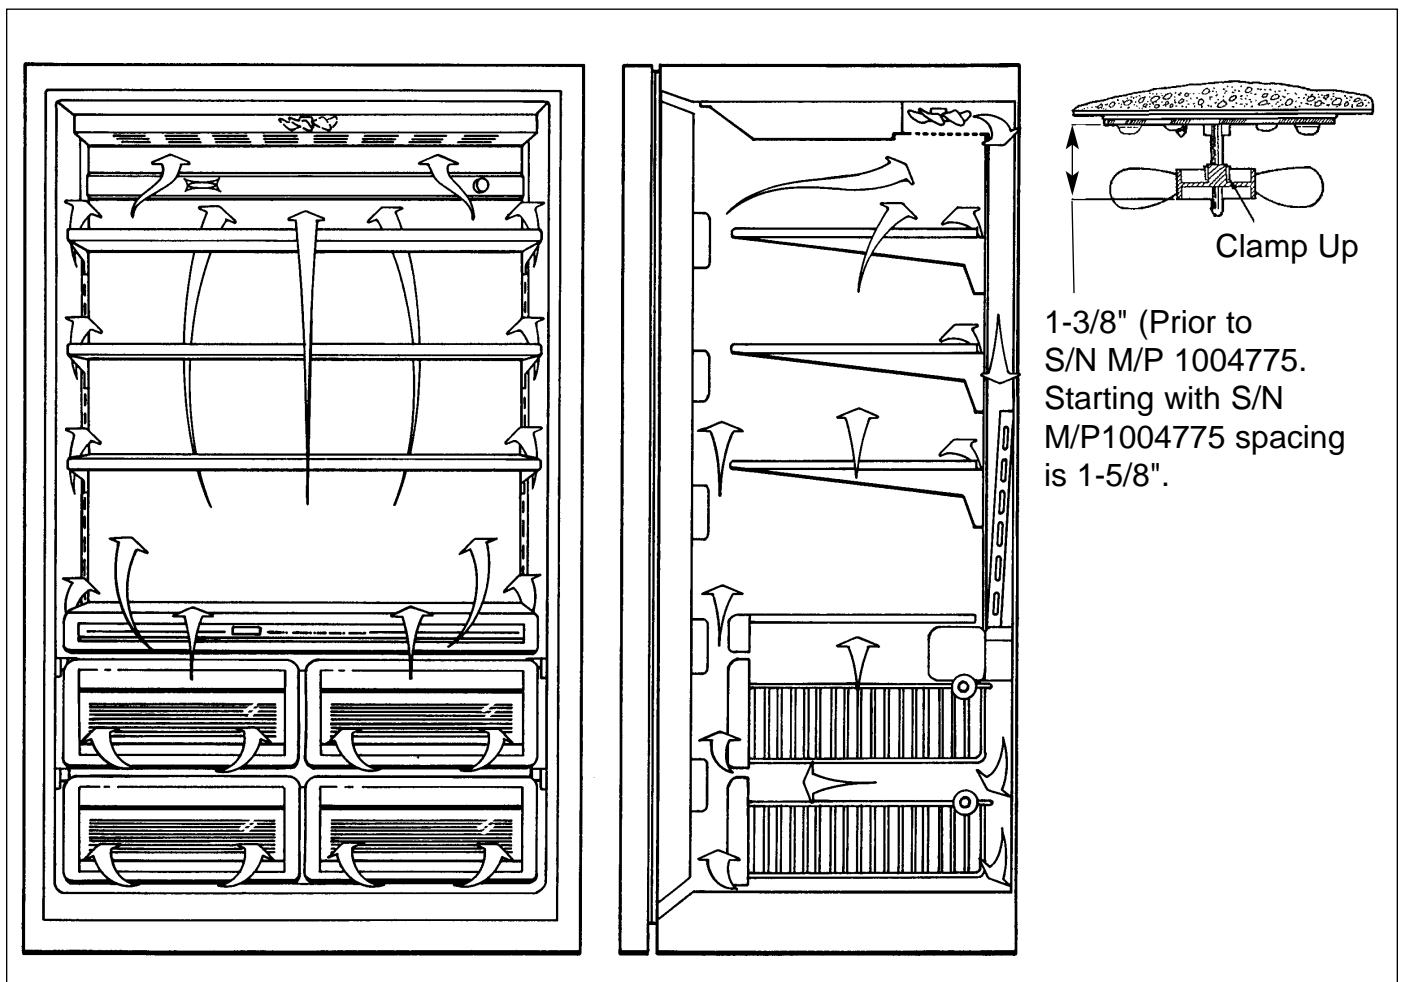

Figure 3-2. Air Flow - Model 501F
### Air Flow - Model 501F (Figure 3-2)
**NOTE:** Figure 3-2 shows air flow for units manufactured after S/N M663116/P679466 with black fan blade, part no. 3-15-045-0. Units built prior to these serial numbers use a white fan blade, part no. 3-15-006-0, and the air flow is opposite than that shown. Starting with S/N M/P1004775, fan blade is grey, part no. 3150520.